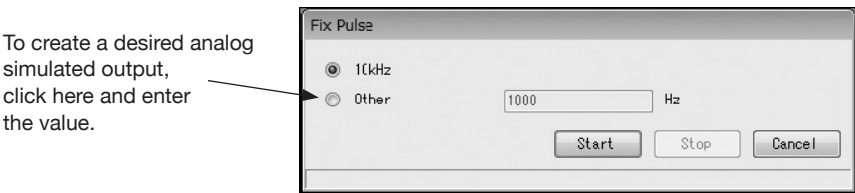

Fig. 3-53
- (1) Click "Diag/Service (T)" from the menu, and then click on "Fix Pulse" from the drop-down list of "Loop Test".
- (2) The following window (Fig. 3-53) will be displayed. Select the simulated output value and click "Start" button. To set and output a desired output value, select "Other" and enter the pulse frequency to be output, then click "Start" button.
By clicking "Cancel" button, the window will return to the window shown in Fig. 3-53.
- (6) By clicking "OK" button, the window will return to the window shown in Fig. 3-53. Click "Cancel" button to exit "Fix Pulse".